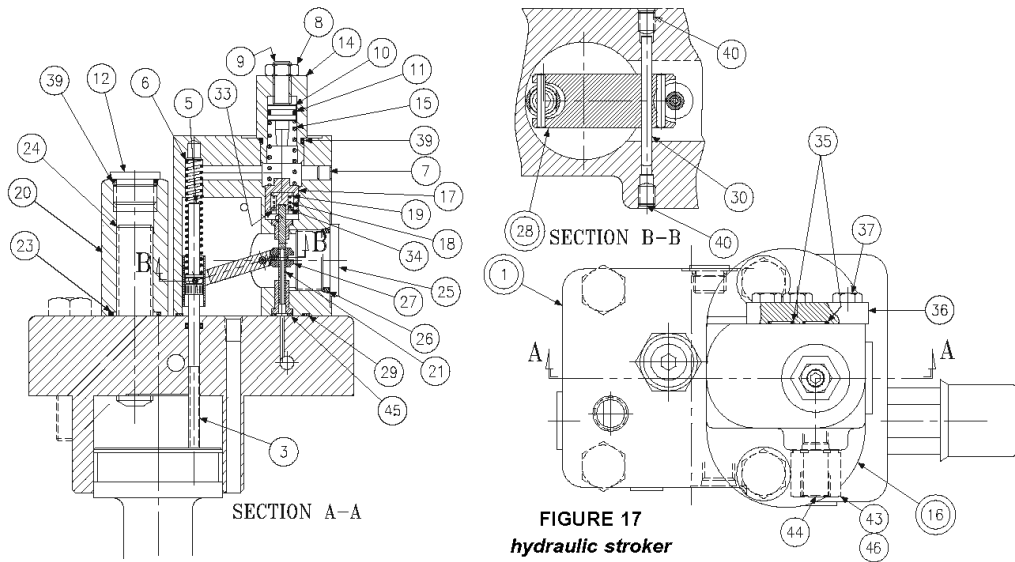

FIGURE 17
PARTS LIST FOR FIG. 17
1. **See figure 17.** Remove 2 screws holding body (16) to cap assembly (1).
2. Remove all parts from body (16) except pin (30) and arm assembly (28). It is not necessary to remove these parts unless broken or worn. Examine parts for wear or damage.
3. Remove screw (3). Examine head for excessive wear, and body for smooth sealing surface with O-ring.
2. Install spool (6) into bore as shown. Install spring (11) over end of spool.
3. Install O-ring (8) on spring retainer (7). Install retainer (7), screw (13), and nut (14) in plug (4).
4. Install O-rings (10) and (15) on plug (4). Install plugs (4) and (12) in body (1). Install .047", 1.19 mm orifice (19), and .071", 1.98 mm orifice (20) and plugs (2) and (17). Torque plugs. Install O-ring (21) in cap.
5. Turn screw (13) in until spring retainer (7) contacts spring (11). Turn an additional 1-1/2 turns and lock in position.
8. **See figure 17.** Apply thread locking compound on threads of screw (3), lubricate the shank, thread through the cap into the control piston, and torque to 5 lb.-ft., 6.78 Nm.
9. Install minimum stop screw (24) and turn clockwise to stroke pump to full volume. Measure height from control cap to top of screw (3). With control piston at full displacement, dimension must be .74 +/- .03 in., 18.8 +/- 0.76 mm. Back out minimum stop screw (24) till there is no contact with control piston.
10. Press dowel (30) into body (16), through the link (28), to 1/4", 6.35 mm below surface. Apply hydraulic sealant to threads of screws (40) and install over dowel (30).
11. Press spool (21) into retainer (19). Caution: do not use excessive force. Place spool/retainer assembly into spool (17) with spring (18) and washer (34). Secure with retaining ring (33).
12. While sleeve (27) is engaged into dowel on link (28), slide above spool assembly into bore of body (16), and through sleeve (27). Spool (21) must move freely and easily at all positions of the link (28).
13. Assemble all other components into body (16) per above drawing. Torque plug (12).
14. While spring retainer is engaging clevis pin (5) under dowel of link (28), slide the other opening of spring retainer over the top of the screw (3). Attach body assembly (16) to cap (1) with two screws and torque to 75 lb.-ft., 102 Nm.